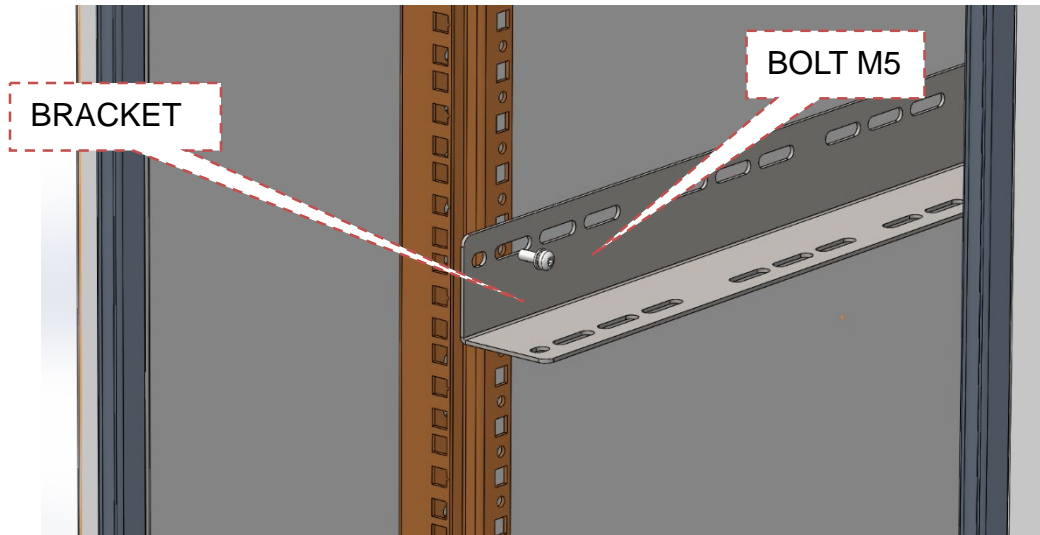

Figure 4-2 Drill holes and Install the Mounting rack on wall
1. Install bracket on the cabinet with the screw. as shown in Figure 4-1. Attention: Please pay attention to mounting of bracket. as shown in Figure 4-2.